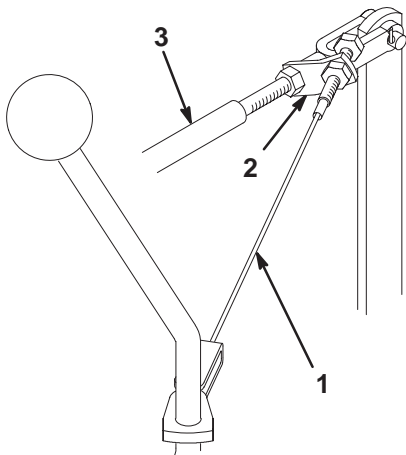

Figure 50
1. Loosen the front jam nut securing the cable assembly to the mow/lift control rod bracket (Fig. 50).
3. While holding the mow/lift control rod in the rear position, tighten the rear locknut to remove almost all of the slack from the cable assembly (Fig. 50). Do not over-tension the cable.